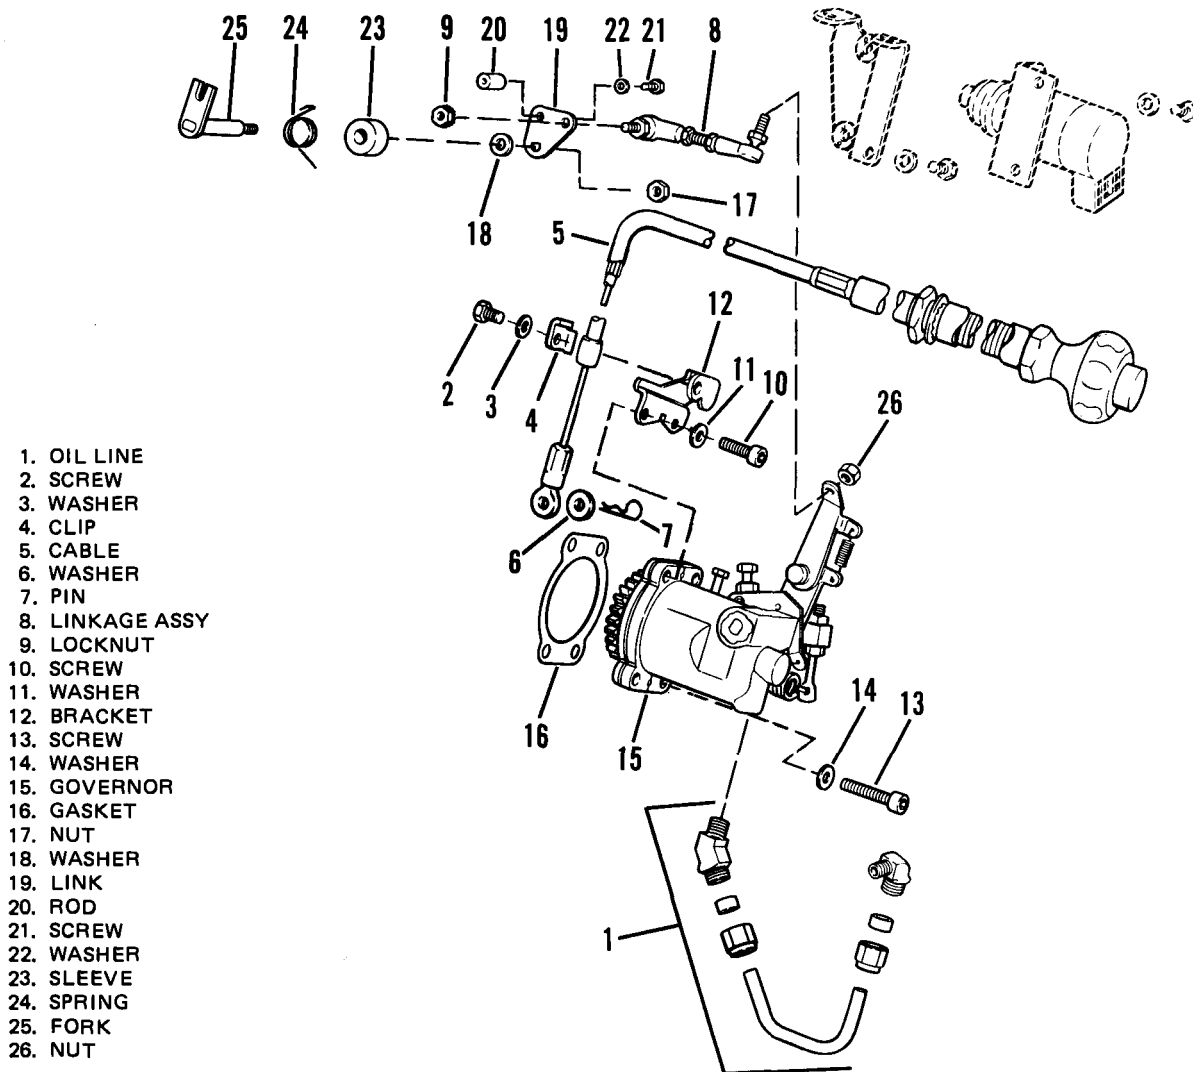

Figure 4-34. Governor and Linkage, Exploded View.
4-44. GOVERNOR AND LINKAGE. (See Figures 4-34, 35 and 36)
- (c) Governor linkage assembly (8, Figure 4-34) should fit easily into external link (19) hole and governor (15) link hole.
- (d) Adjust length of governor linkage (8) as required by loosening lock nuts, turning ends in or out, and tighten locknuts.
- (7) Install governor linkage (8) and secure with locknuts (9).
- (8) Connect throttle cable (5) with washer (6) and clip (7).
- (9) Secure throttle cable (5) to bracket (12) with clip (4), washer (3) and screw (2).
- (10) Connect governor oil line (1).
- (11) Rotate engine support up.